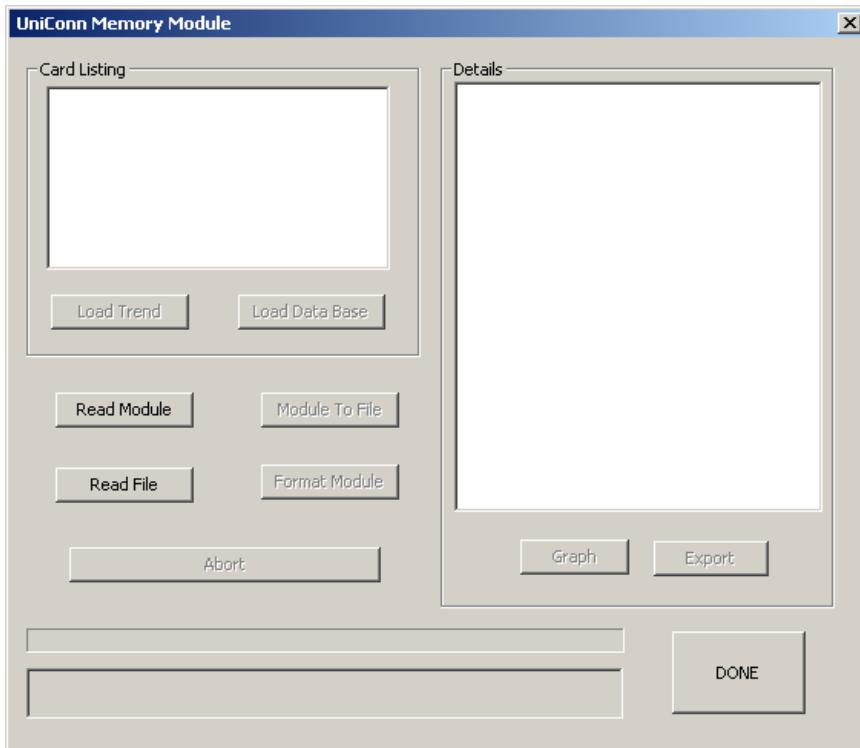

Figure 11-15: UniConn Memory Module Dialog Box
5. Select **File** menu, **UniConn Mem Module** option. This will bring the Main Memory Module dialog shown in Figure 11-15.